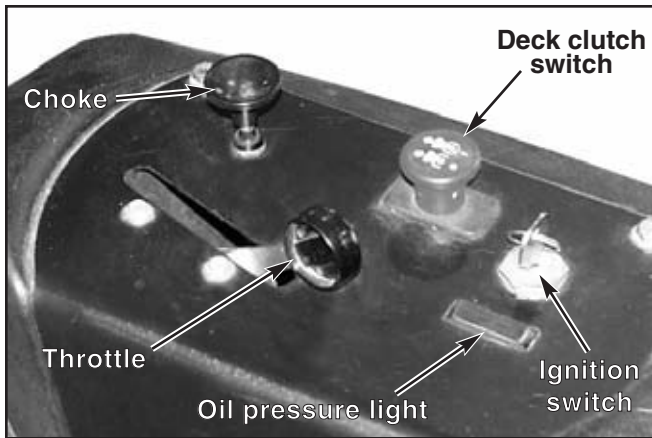

Figure 3-2a
- 1. Ignition switch (Fig. 3-2a - 3-2b - 3-2c)** – a three position switch: off, run, and start. With key inserted, rotate it clockwise to START position; release key when engine starts, and switch will automatically return to the RUN position.
- 2. Throttle control (Fig. 3-2a - 3-2b - 3-2c)** — a cable is linked to engine throttle for controlling engine speed.
3. **Choke control (Fig. 3-2a)** – a cable is linked to manually operate the engine choke. When the lever is in the down position, the choke is in the off (run) position. When the lever is pulled up, the choke is in the on (start) position. **Do not** operate the machine in the on (start) position. **NOTE:** The choke control is not used on Models 927053, 927061, 928010, 928028 & 928036.
5. **Deck clutch switch (Fig. 3-2a - 3-2b)** — this switch engages the deck. Pull the switch up to engage and push switch down to disengage the clutch. **IMPORTANT:** Never engage clutch with engine running at high rpm or when the deck is under load. Clutch, belts or deck could be damaged.
8. **Oil pressure light and alarm (Fig. 3-2a - 3-2b)** — this light comes on when the ignition switch is placed in the RUN position and stays lit until the engine is running and a safe oil pressure is developed. If light comes on during operation, shut engine off immediately and locate and correct the problem. **Models 927558, 927566, 927921, 927939, 927947 & 927954 only** — an audible alarm will sound when the engine oil pressure drops below normal operating pressure.